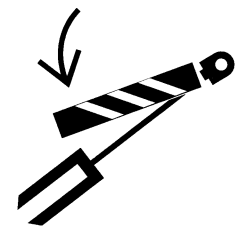

Figure1-36
- Support the loader reliably and firmly when you have to work under the machine. Don't rely on the cylinder to support the loader. Accessory may fall down if controlling device moves or pipes leak oil. (Figure 1-36)